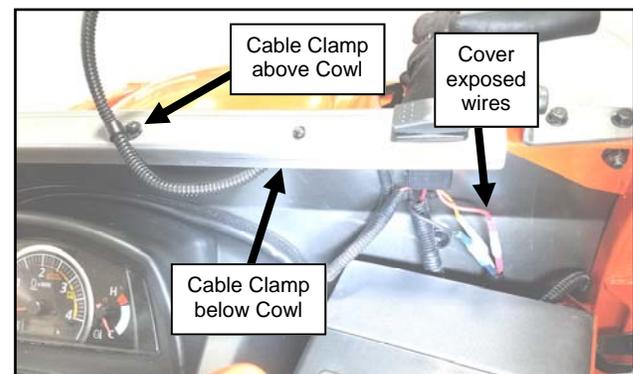

Fig. 16.3 (Secure Wires to Cowl)
- 16.3** Open the windshield and secure the wiring harness to the cowl using cable clamps. Verify the wiper harness routing allows the windshield to be opened and closed without the harness getting pinched under the windshield. See Figure 16.3.